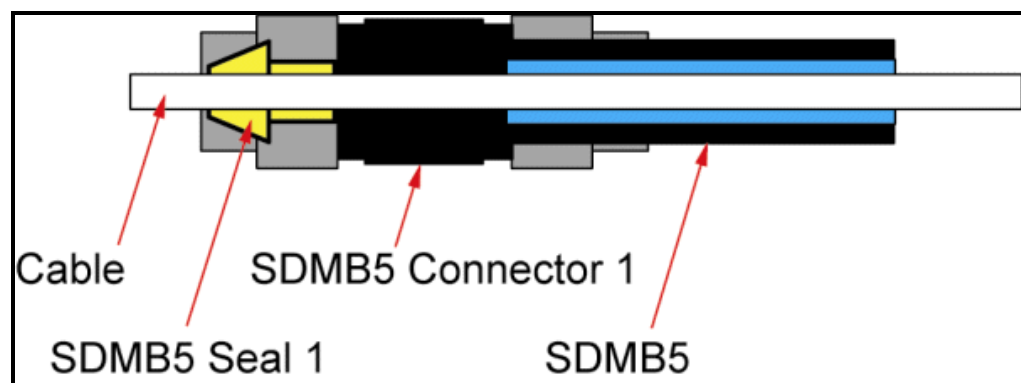

Figure 2 Schematic diagram of cable and sub-duct sealing arrangement
17. At both ends of route fit SDBM5 Seal 1 (split seal) around cable, insert into Connector 1 and tighten collar to compress seal to give a fully water tight cable/subduct seal, as shown in Figure 2.